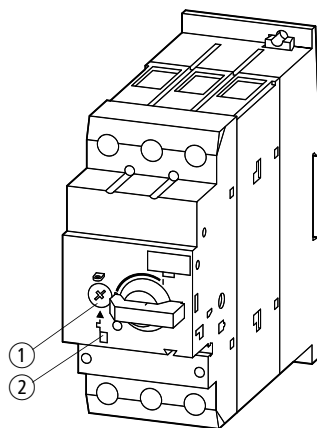

Figure 1: PKZM4-.../XTPR...DC1 motor-protective circuit-breakers
The rated motor current is set on the PKZM4-.../XTPR...DC1 units by means of a current dial ① (→ figure 1, page 21).
Proper functioning of the circuit-breaker can be verified by means of the testing feature ② (→ figure 1, page 21).